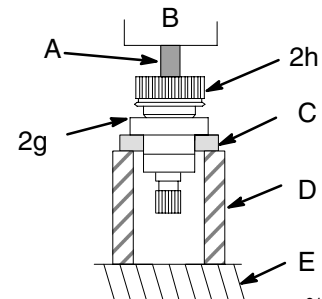

Fig. 14
4. **Using a hydraulic press,** place pieces of steel bar stock on the inner race of the large bearing (2g) and press the shaft through the hub and bearing. See Fig. 14.